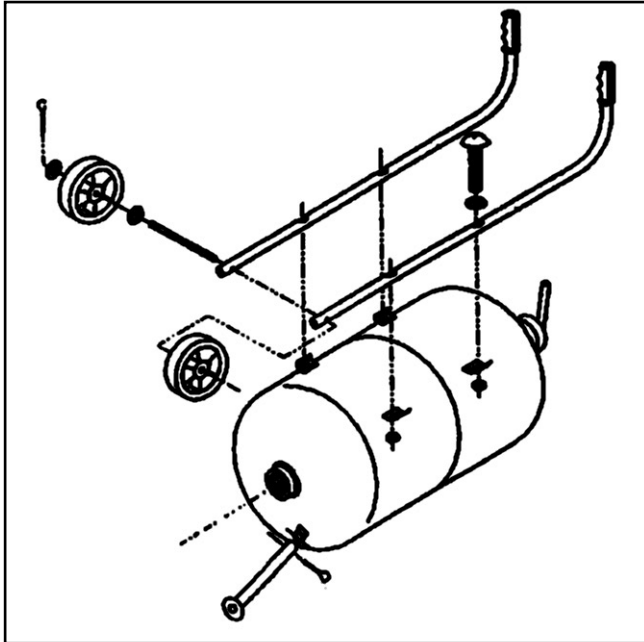

Figure 1. Wheel and handle installation.
1. Install the wheels, handles, and leg to the tank with the screws, washers, nuts, and cotter pins as shown in **Figure 1**.